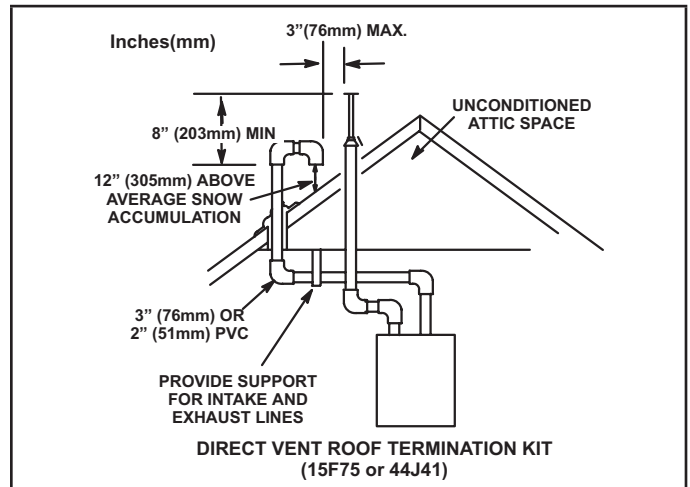
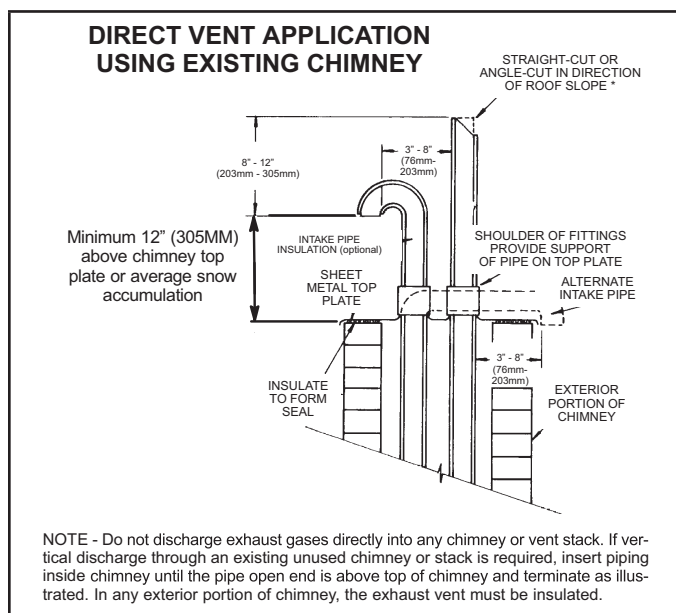

FIGURE 34
FIGURE 41
Intake and exhaust pipes may be routed either horizontally through an outside wall or vertically through the roof. In attic or closet installations, vertical termination through the roof is preferred. FIGURE 34 through FIGURE 41 show typical terminations.
- 3 - On roof terminations, the intake piping should terminate straight down using two 90° elbows (FIGURE 34).